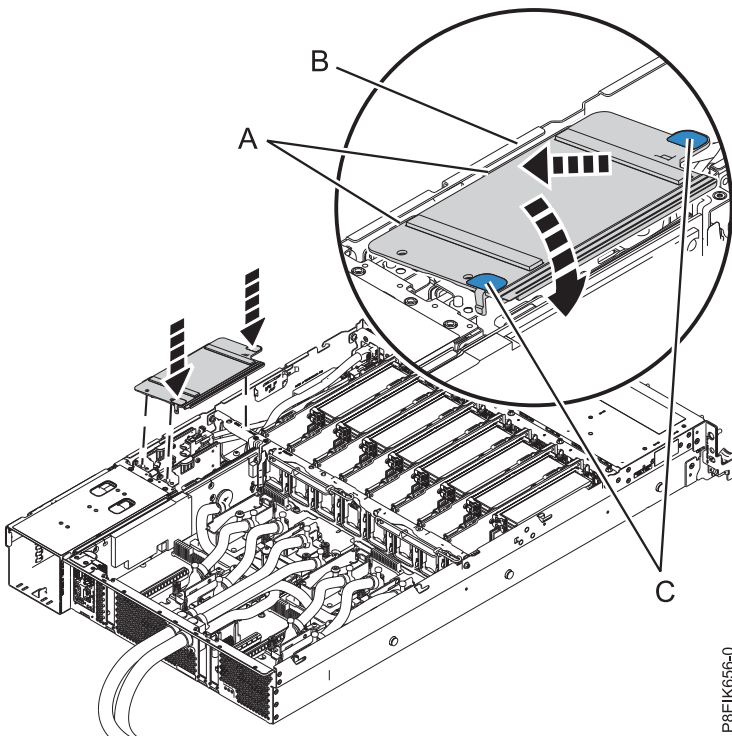

Figure 63. Installing the power riser air baffle
4. Install the power riser air baffle. Ensure that the holes in the baffle align with the pins on the system. Using the blue tabs (C), insert the edge (A) of the baffle into the side of the system (B). Then snap the baffle down into place. See Figure 63.